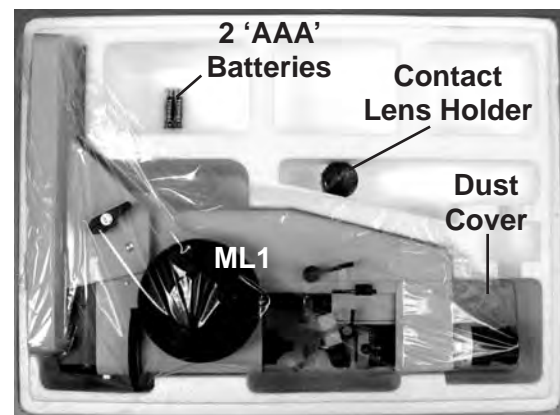

Figure SU-03 ML1 and Accessories
4. Lift off the top part of the Styrofoam Box. Refer to Figure SU-03.
6. Remove the accessories. Refer to Figure SU-03.
7. Carefully remove the plastic bag that was protecting the ML1 during shipping. Refer to Figure SU-03.